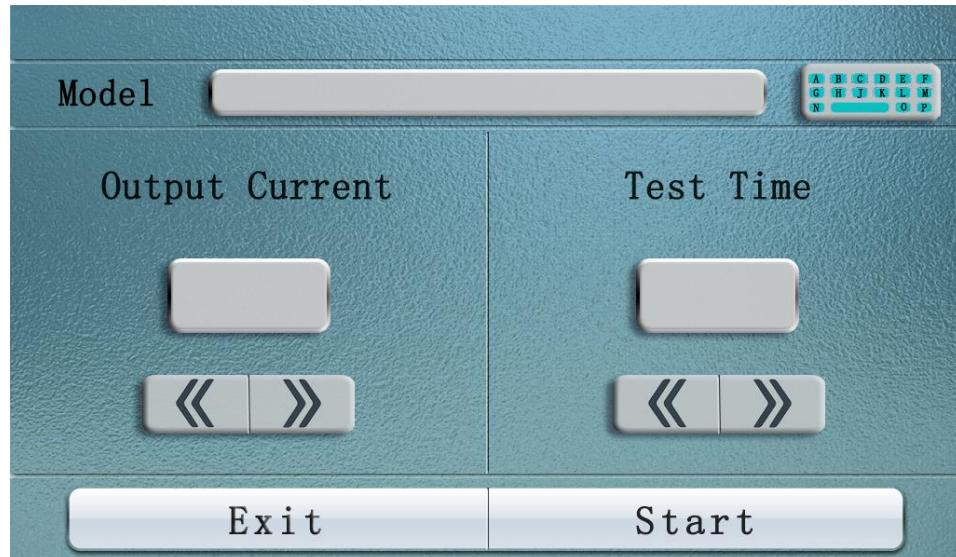

Figure 2
2. Press "Data test" to enter the following interface, as shown in figure 2
1, wiring methods: as shown in Figure 2, special test line the color red to red, black to black, the thicker current line connected with corresponding I +, I - terminal screws tightly, the thinner power line inserted into the socket V +, V -, two clamped tested on the product ends.